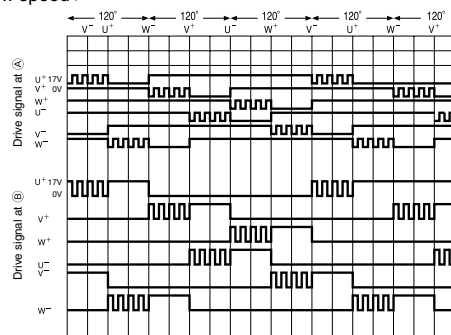

Fig. 6-2
- In low speed rotation mode (PWM range), as shown in Fig. 6-2, 0-5V chopper signal is output from microcomputer for each phase. Signal output from microcomputer is output to IC1 and is inverted by active Lo to become 0-17V chopper signal; it is then applied to each phase transistor gate to drive.